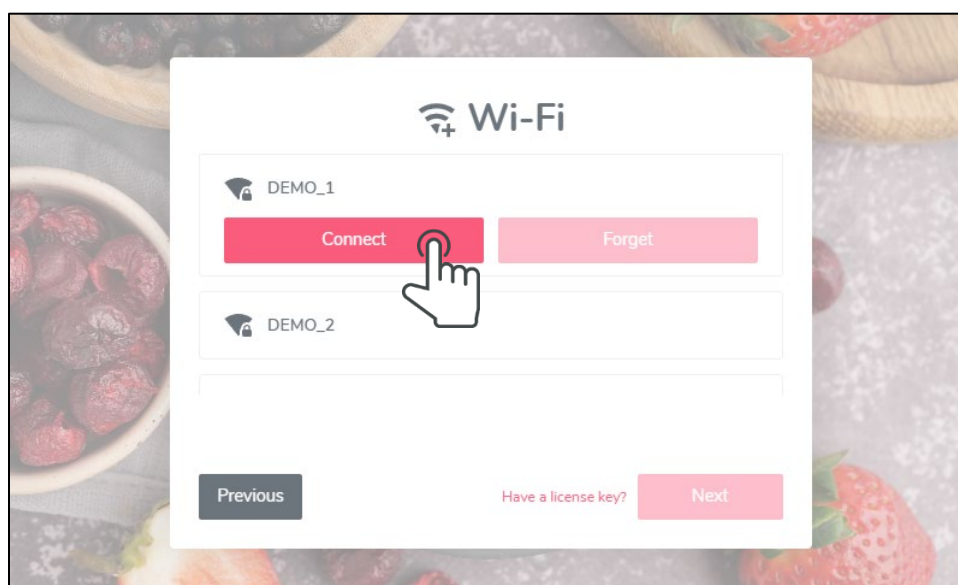
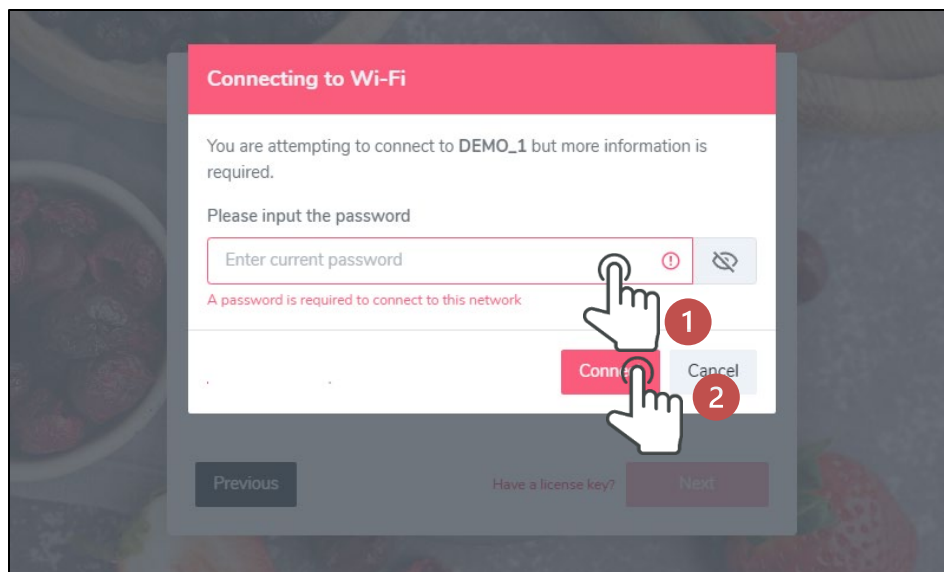

Figure 6
Figure 7
2. Then, tap on 'Connect' (Figure 6) and enter the Wi-Fi password when prompted (Figure 7).